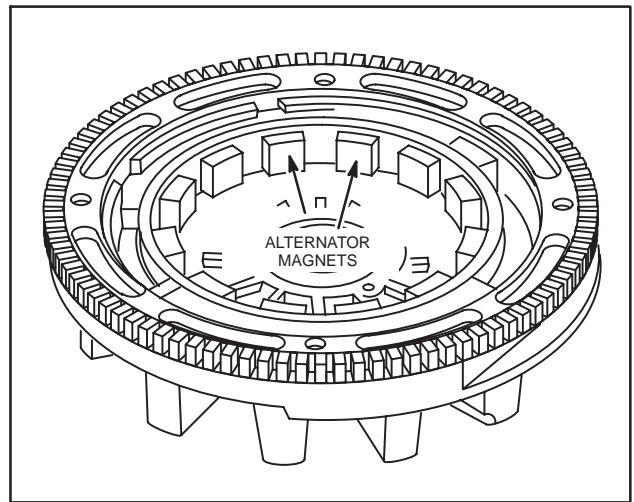

Fig. 7 – Alternator Magnets
Intek™ OHV-Twin Cylinder Flywheels have a single ring of magnets which provide the magnetic field for the various alternator systems. There are two (2) sizes of alternator magnets. The size of the magnet determines the alternator output Fig. 7.